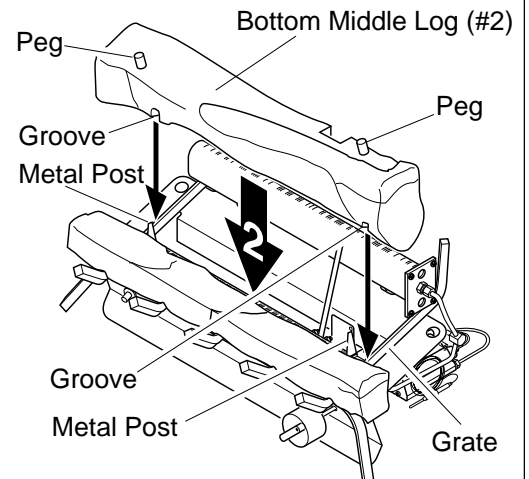

Figure 22 - Installing Bottom Middle Log (#2)
2. Rest bottom middle log (#2) behind metal posts on front burner. Make sure the grooves in the bottom of the log fit over the grate. Bring the log forward next to the metal posts. The pegs on the log must be on top (see Figure 22).